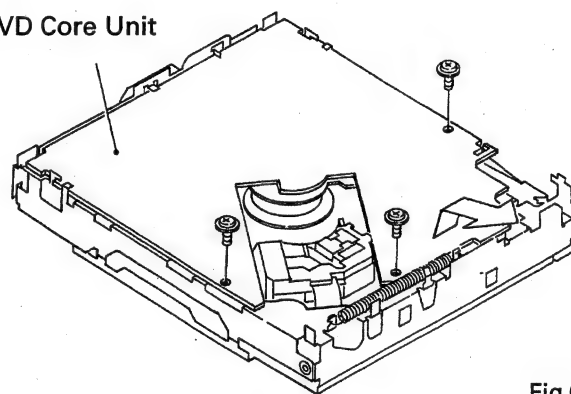

Fig.6
5. Remove screws at three locations, and remove the DVD Core Unit (lift the board in the direction of the white arrow shown in fig.6, and remove it out diagonally).